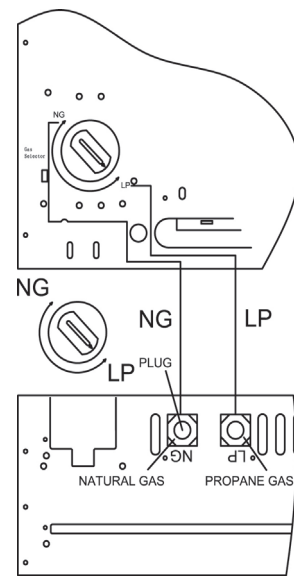

Figure 16
3. For propane gas, press in knob using a flat screwdriver with a blade the thickness of a quarter and turn knob counterclockwise  until the knob locks into the LP position, see Figure 16. Fuel selection device must be locked in the LP position. Do not operate heater between locked positions.